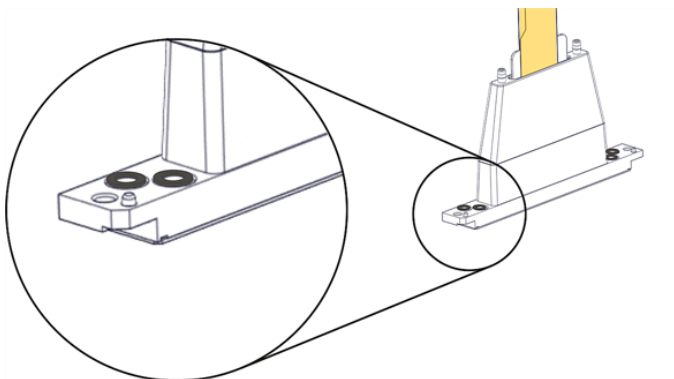

Figure 4-87 O-ring seals on the print head
16. Place four (4) **new** O-ring seals in the replacement head (see Figure 4-87 on the previous page).